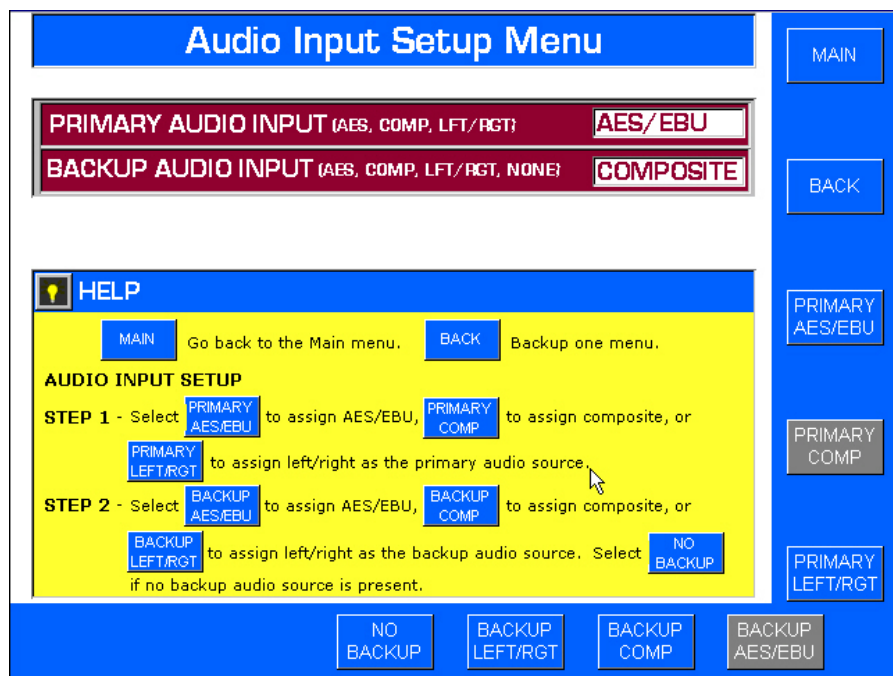

Figure 3-32. AUDIO INPUT SETUP MENU
1. From the Audio Input Menu Depress PRI/BACK SETUP. The Audio Input Setup Menu will appear (refer to Figure 3-32).